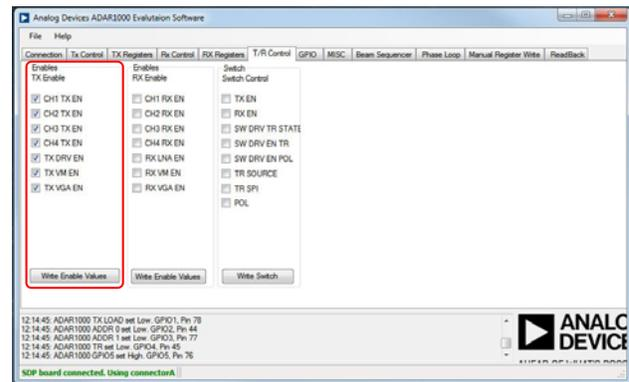

Figure 8. Enabling Transmit Channels
1. Click the **T/R Control** tab (see Figure 8).